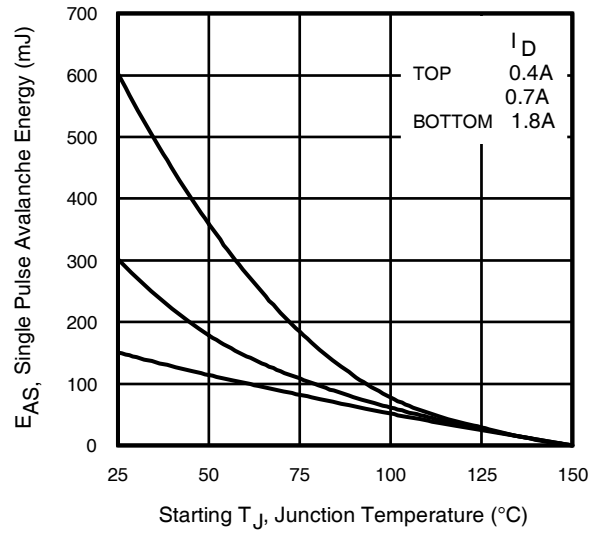

Fig 13. Maximum Avalanche Energy vs. Drain Current
- ② Starting $T_J = 25^\circ\text{C}$, $L = 93\text{mH}$, $R_G = 25\Omega$, $I_{AS} = 1.8A$. (See Figure 13).
- ③ $I_{SD} = 3.6A$, $di/dt \leq 520A/\mu s$, $V_{DD} V_{(BR)DSS}$, $T_J \leq 150^\circ\text{C}$.
④ Pulse width $\leq 300\mu s$; duty cycle $\leq 2\%$.